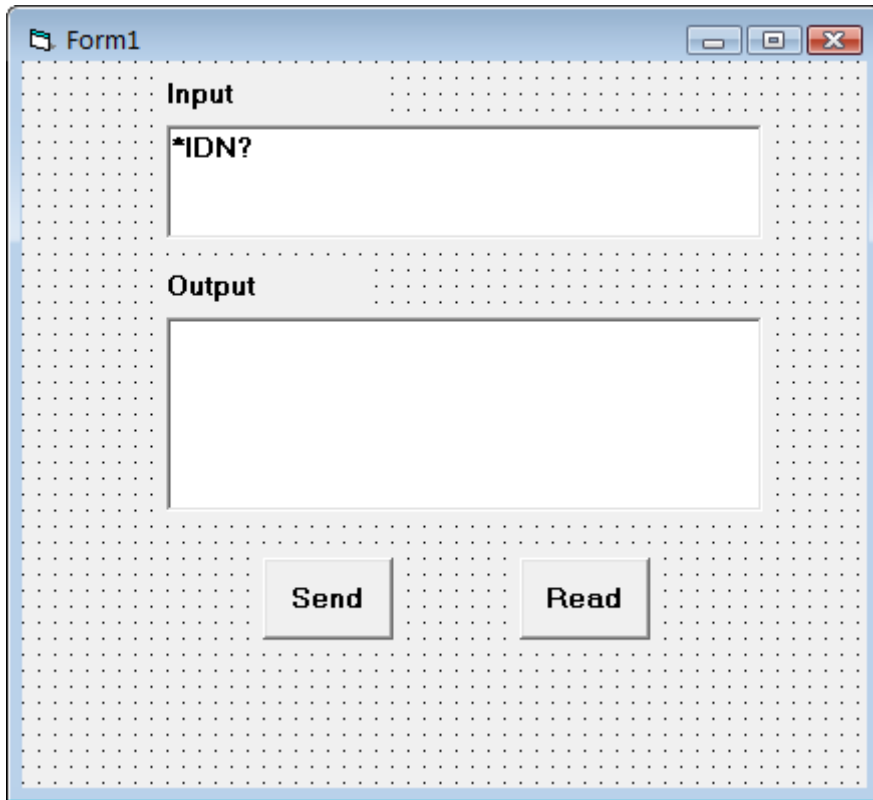

Figure 4-2-2
3. Add two Labels respectively named as Input and Output, two TextBox and two CommandButtons named as Send and Read separately. Set Text in the attribute of TextBox under Input as *IDN?. See figure 4-2-2.